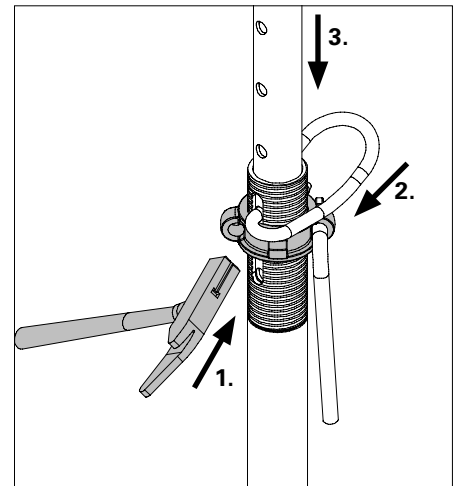

Fig. A2.02a
2. Hold inner tube firmly and pull out G-hook. (Fig. A2.02a/A2.03a)